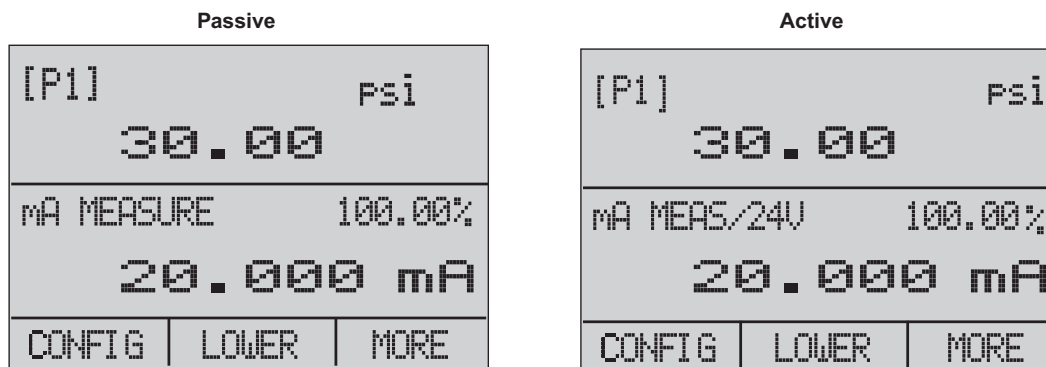

Figure 25. Passive and Active Screens
- Actively – the Product supplies a loop power of 24 V dc to the UUT to power the device while it reads the 4... 20 mA signal. See Figure 25.